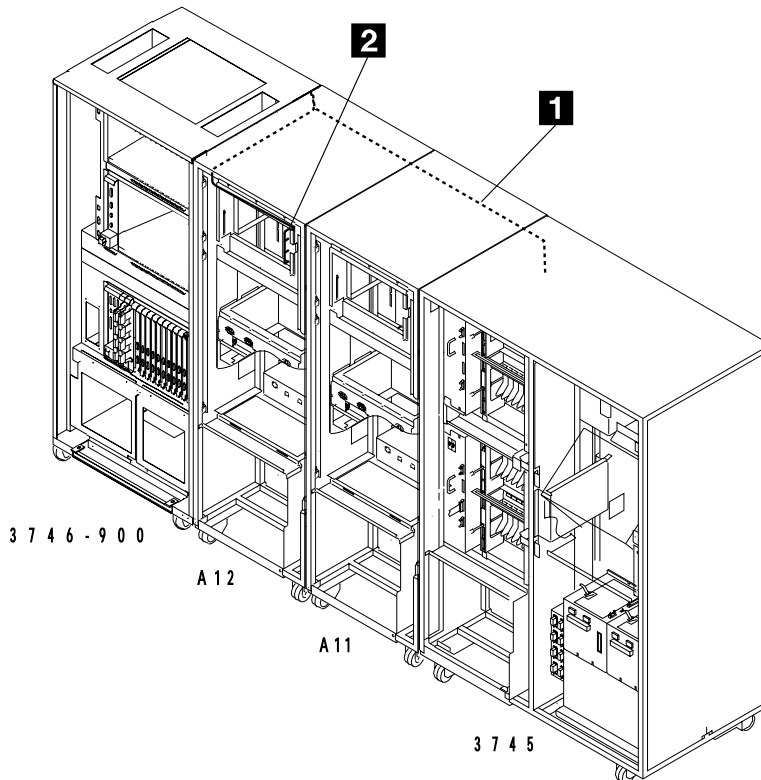
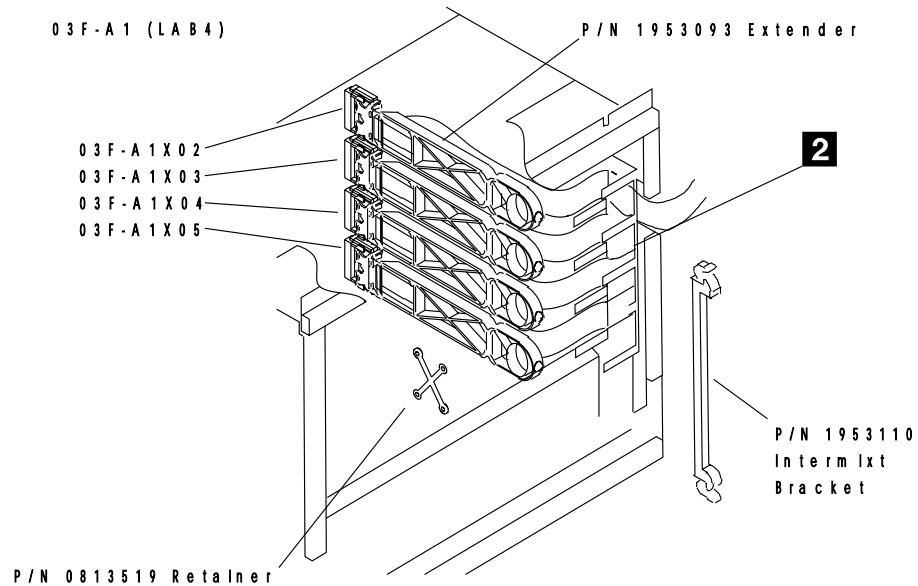

Figure 4-33. Cabling From the 3746-900 to the 3745 and 3746-A12 (Rear View)
Figure 4-34. IOC Bus Cable Routing in the 3746-A12
- Step 1. \_\_\_\_ At the top right rear of the 3746-A12, locate the LAB4 board in 03F-A1 (see Figure C-5 on page C-4 for location) and remove the upper cover. Using a screwdriver, pry off the EMC gasket from the right side of the board enclosure (see Figure 4-34 on page 4-35).
- Step 4. \_\_\_\_ Unroll and route these IOC cables **2** through the upper side windows from the 3746-900 to the 3746-A12 at board 03F-A1 (see Figure 4-33 on page 4-34). Fold the cables going to X02, X03, X04 and X05 according to the **black** fold marks on these cables. Clamp cables in raceways using retainers PN 0813519 (see Figure 4-34 on page 4-35). Plug cables **2** into their respective positions.
- Step 5. \_\_\_\_ Secure the cable extenders using an intermix bracket PN 1953110 (see Figure 4-34). On the board's right side, re-install the EMC gasket previously removed.